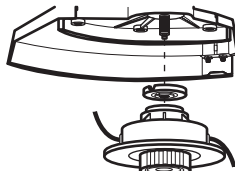

Fig. 24a
6. Remove the trimmer head (B11) by unscrewing clockwise. (See Fig. 24a)